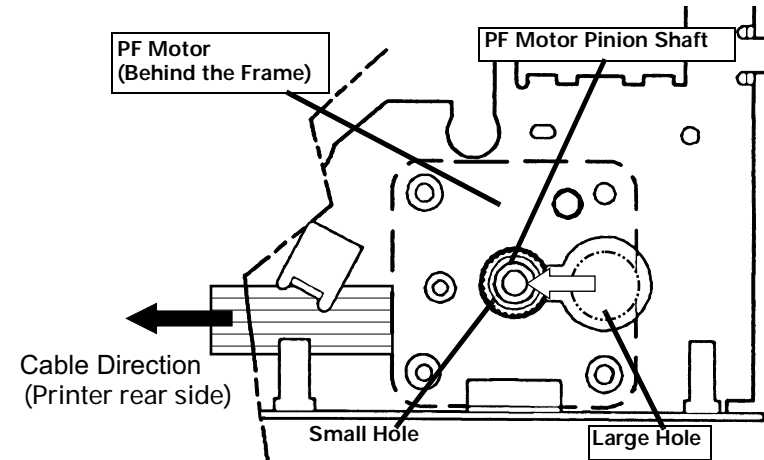

Figure 4-20. PF Motor Assembly Installation
- Be careful for the routing direction of the cable from the PF Motor Assembly. (Refer to Figure 4-20.)